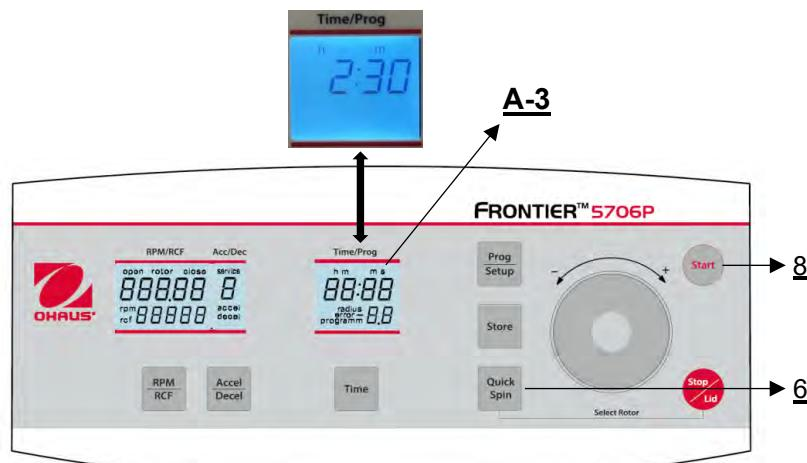

Figure 25
You can start the centrifuge either with the "**Start**" key (8) (see Figure 25) or the "**Quick Spin**" key (6). By the "**Start**" key (8) you can start stored runs or runs with manually pre-selected parameters.